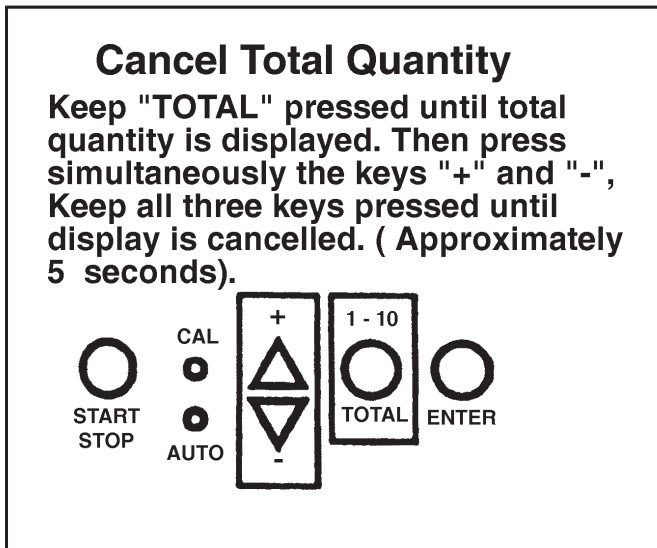

Figure 3-11 Cancel Total Quantity (Normal Mode)
**Cancel Total Quantity** (Figure 3-11)